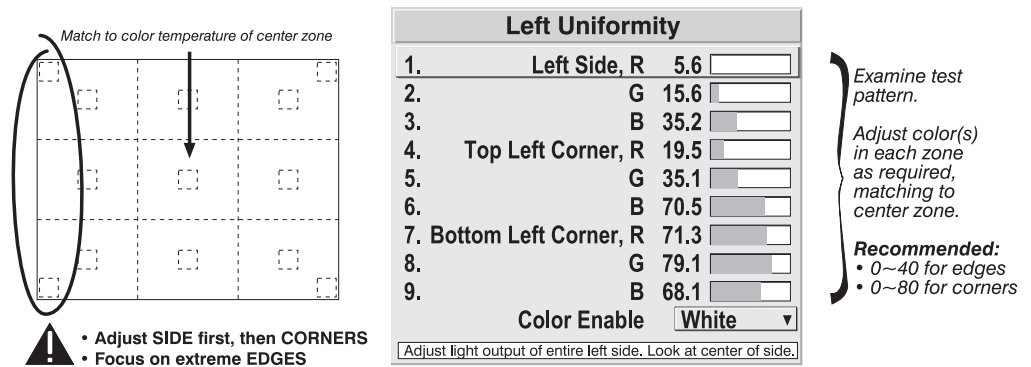

Figure 3.31. Match Zones to Center Color Temperature
- 2b) Return to the *Brightness Uniformity* menu. Beginning with the screen that exhibits the most obvious color shift(s), for each edge that exhibits a noticeably different color temperature from the center, select the corresponding *Uniformity* adjustment menu—*Left*, *Right*, *Top* or *Bottom*. For example, if any part of the left side is too blue, too red or too green, go to the *Left Uniformity* menu and adjust the colors (i.e., change their light output) until all portions of the left side closely match the center color temperature. Adjust an edge first (focusing on its center), and then adjust its corners. See Figure 3.31.